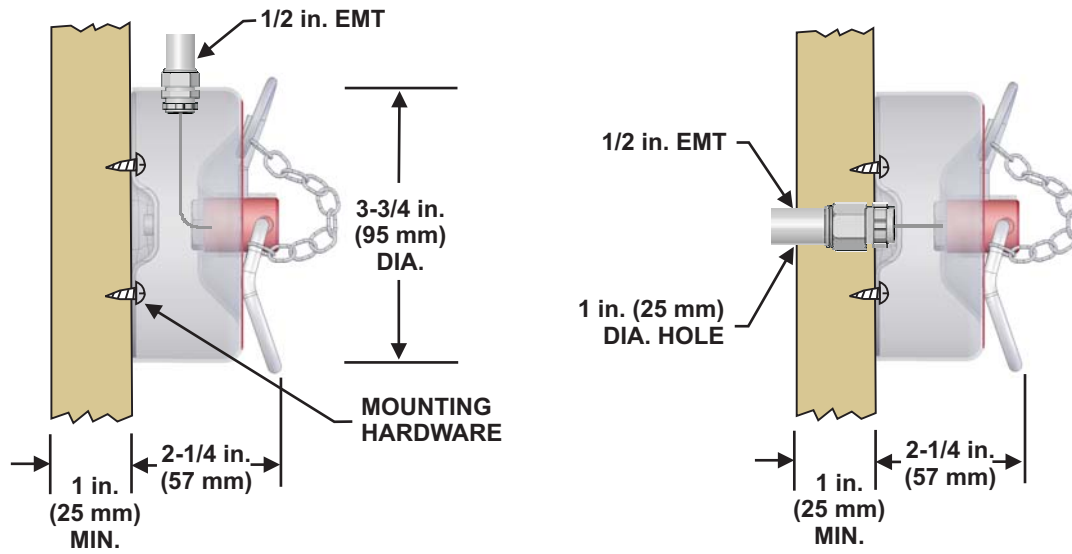

Figure 4-36. Installing the Remote Manual Release, P/N 875572
1. Attach a length of 1/16-inch steel cable to the Remote Manual Release handle, as follows (refer to Figure 4-36):